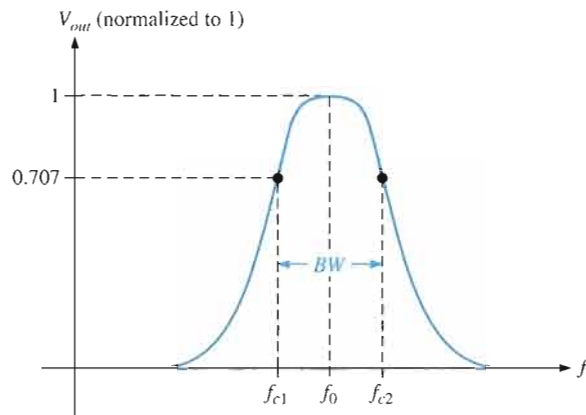

FIGURE 15-3
A **band-pass filter** passes all signals lying within a band between a lower-frequency limit and an upper-frequency limit and essentially rejects all other frequencies that are outside this specified band. A generalized band-pass response curve is shown in Figure 15-3. The bandwidth (BW) is defined as the difference between the upper critical frequency (f_{c2}) and the lower critical frequency (f_{c1}).